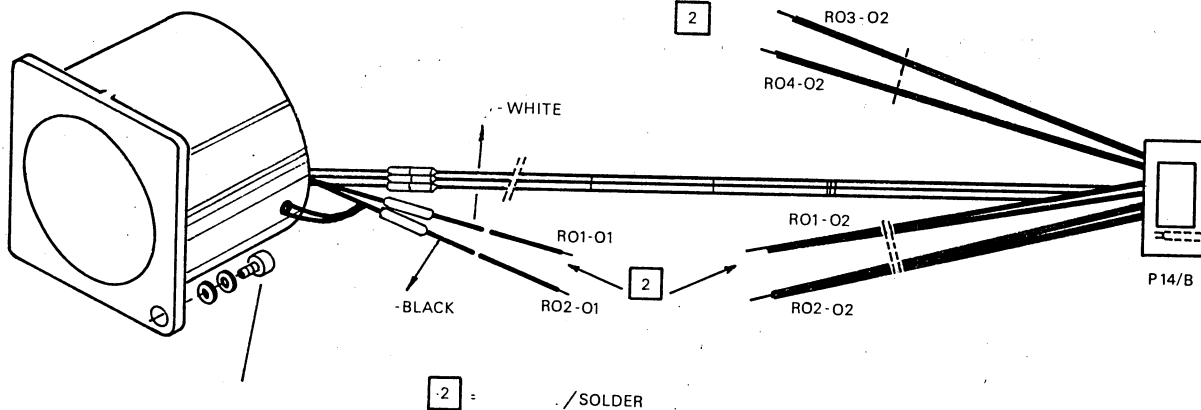

Fig. 7-11 Carriage Motor Assembly for the Mina Mechanics
- . Remove the four screws fixing the motor to its support (see fig. 7.11)
- . Mount the new motor and fix it to the support by means of the 4 fixing screws (see fig. 7-11)